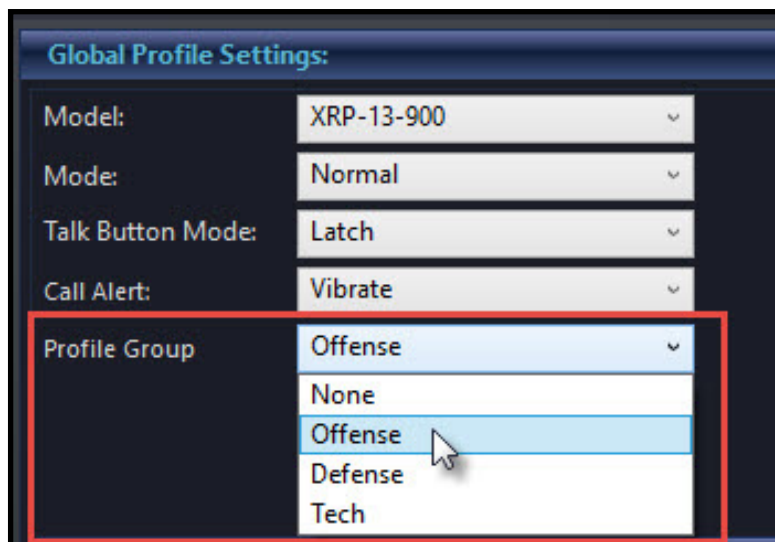

Figure 73: Profile Group Selection - Profile Detail View
6. To associate profiles with any group, open the profile’s detail view and edit the Profile Group field (in the Global Profile Settings section). See Figure 73.